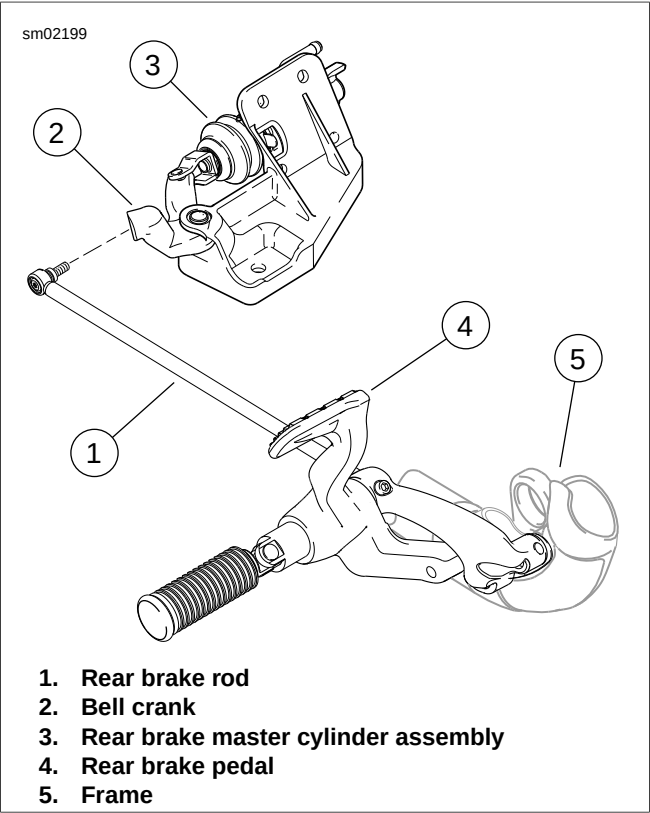

Figure 4-71. Rear Brake Linkage
2. See Figure 4-71. Remove rear brake rod (1) at bell crank (2).
- See Figure 4-71. Apply two drops of LOCTITE 243 (Part. No. 99642-97) to rear brake rod ball stud screw. Attach rear brake rod (1) to bell crank (2). Tighten screw to 120-180 **in-lbs** (13.6-20.4 Nm).